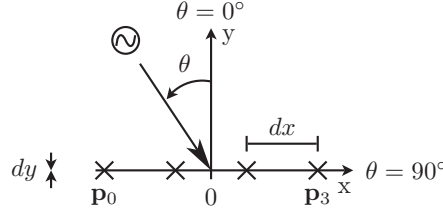

Figure 1.1: Part A2, Scenario 1
Consider the array processing scenario in a two dimensional space as is depicted in Fig. 1.1. The sensors are located as a  $J = 4$  elements uniform linear array (ULA) on the x-axis with
- The Matlab script `assign_A2s1.m` in `assign_A2s1.zip` helps evaluating the beamformer class that is contained in the class folder `@beamformer`. In the first part of the script the array configuration is setup. Choose the correct setting at the start of the script and verify that the sensors are located at the positions as is depicted in Fig. 1.1.
In this scenario we use the same setup as in Fig. 1.1 with the parameters as given in Sec. 1.2. A script with the name `Assign_A2s2.m` is available to guide you through the assignment.